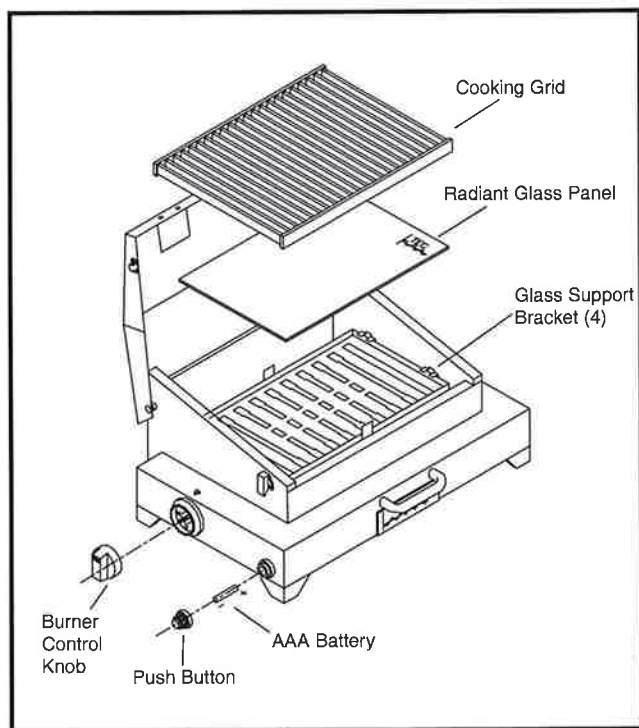

Figure 1. TEC Cherokee FR Components
2. Remove the Cooking Grid from the grill. Place the Radiant Glass Panel with the smooth side up on the four (4) brackets directly above the burner assembly making sure the glass is level. (See Figure 1, Page 4) If the glass is not level it may be necessary to make a slight adjustment to the brackets. The glass brackets can be easily adjusted using a pair of pliers until the glass sits level.
2. Set the Cooking Grid in place with the closed side of the channels facing up, on top of the Radiant Glass Panel. (See Figures 1, Page 4)
1. Remove the Burner Output Knobs from the packaging material. (See Figure 1, Page 4)
1. Install the battery as shown, + end first. (See Figure 1, Page 4)
2. Thread the Push button Spark Igniter Knob onto the Spark Igniter Bezel as shown. (See Figure 1, Page 4)